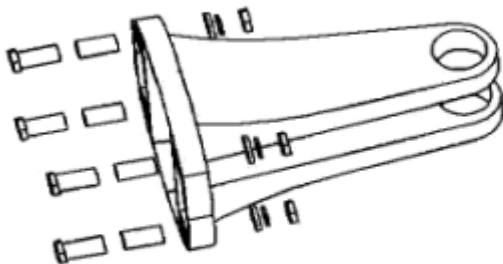
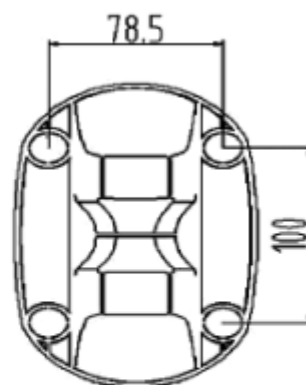

Fig.5
Fig.6
3) The reel in the lower bracket pin must be fixed with a bolt or lock to ensure the safety. The mounting bracket had 4 holes, for each there is 1 M8 screw corresponds. Each screw must be with spring washer or padding (Fig.5). The four holes in two directions to center are 100mm and 78.5mm (Fig.6). What more, you can buy extra bracket to move the unit to more area while use.